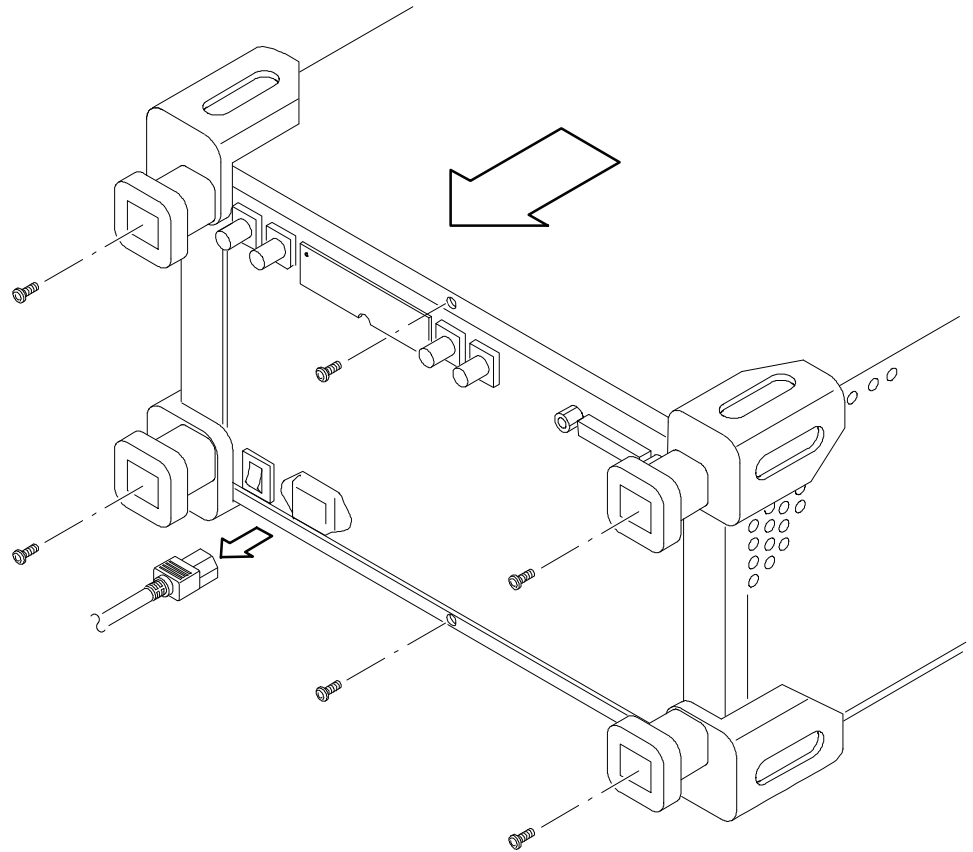

Figure 5-12: Line cord and cabinet removal
2. *Remove the line cord:* Remove the line cord from the rear cover. See Figure 5-12.
3. *Remove the cabinet:* See Figure 5-12.